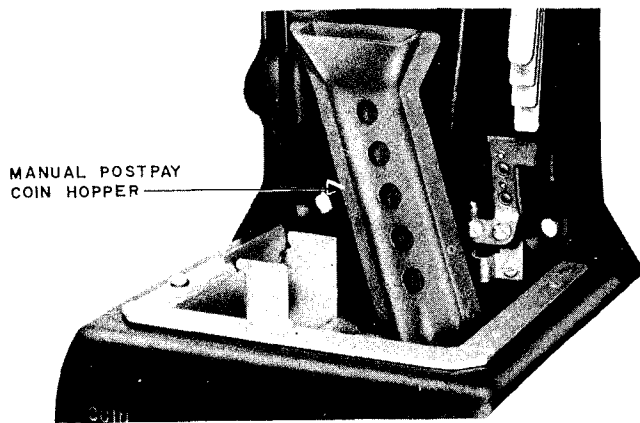

Fig. 5 — Manual Postpay Mechanism Unit
5.01 In manual postpay service coins are deposited only after the operator has completed the connection to the called party. Refund of deposits is not required. The coin hopper serves simply as a guide to direct coins from the coin chute into the coin receptacle. The later-type coin hopper has clean-out holes to aid in removing stuck coins (see Fig. 5).